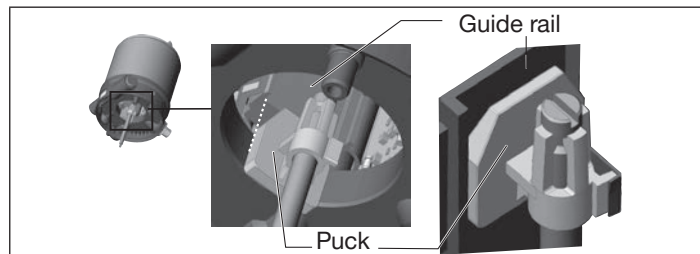

Fig. 6: Aligning the puck
1. the puck can be inserted into the guide rail of the positioner (see “Fig. 6”) and
2. the connection pieces of the positioner can be inserted into the pilot air ports of the actuator (see also “Fig. 6”).